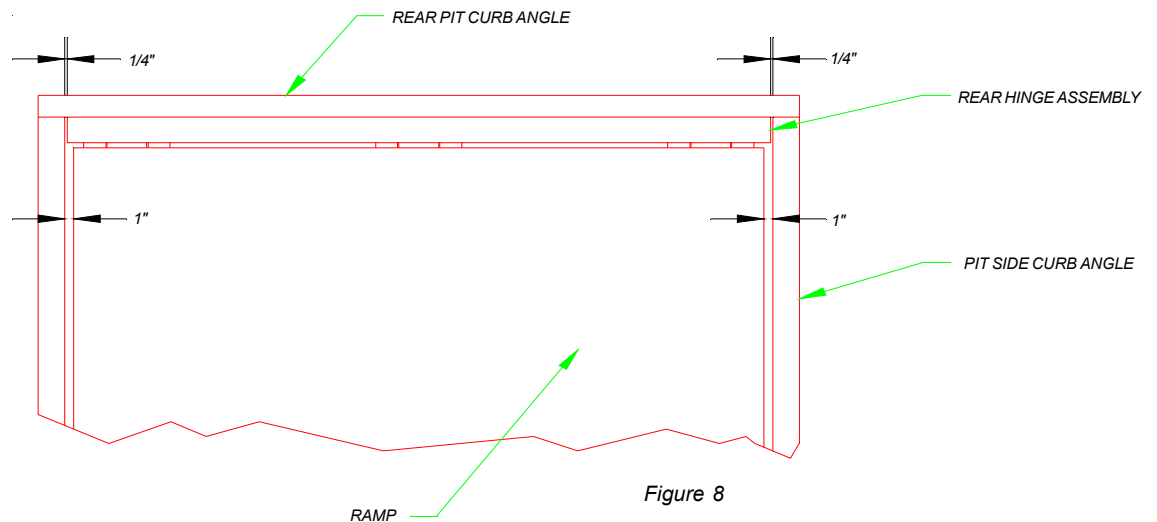

Figure 8
6. Check alignment of dockleveler with the pit. If the pit conforms to the certified pit drawings, there will be a 1/4" gap between the ends of the upper frame angle and the side curb steel. There should also be a 1" gap between the leveler platform and pit sides (See Figure 8).